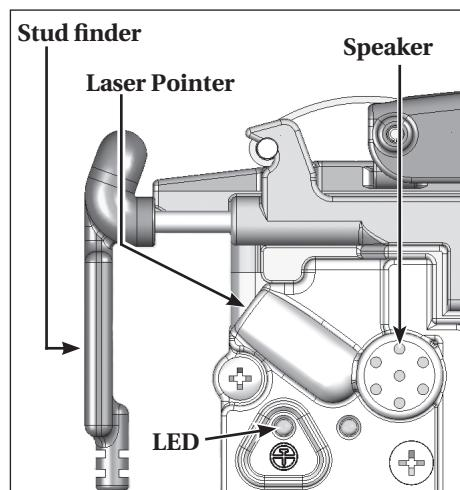

Figure 23
6. The stud finder should beep and the stud finder indicator light will turn red for a second while it calibrates. Once calibrated, the light should turn green. Do NOT move the tool while the stud finder calibrates (See Figure 23).
7. When the light turns green, begin dragging the depressed WCE over the wall "searching" for studs. When moved near the edge of a stud, the stud finder light will begin to quickly flash a red light and the begin beeping quickly (See Figure 23).
8. When moved directly over a stud, the stud finder will emit a constant red light and beep (See Figure 23).